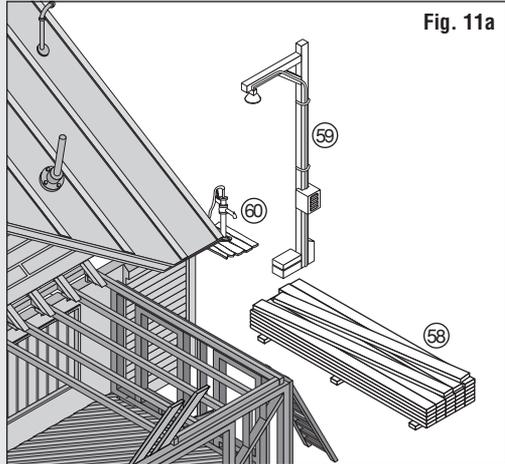

Fig. 12a
- Lay the two sheets on top of each other and cut a notch half-way up both sheets (Fig. 12a).